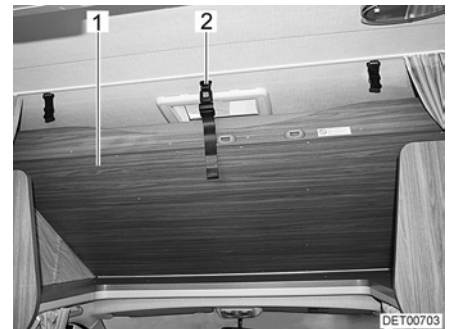

Fig. 51 Overcab bed in driving position
- Swivel the overcab bed (Fig. 51,1) upwards and let the retaining strap (Fig. 51,2) engage in the holder on the ceiling.